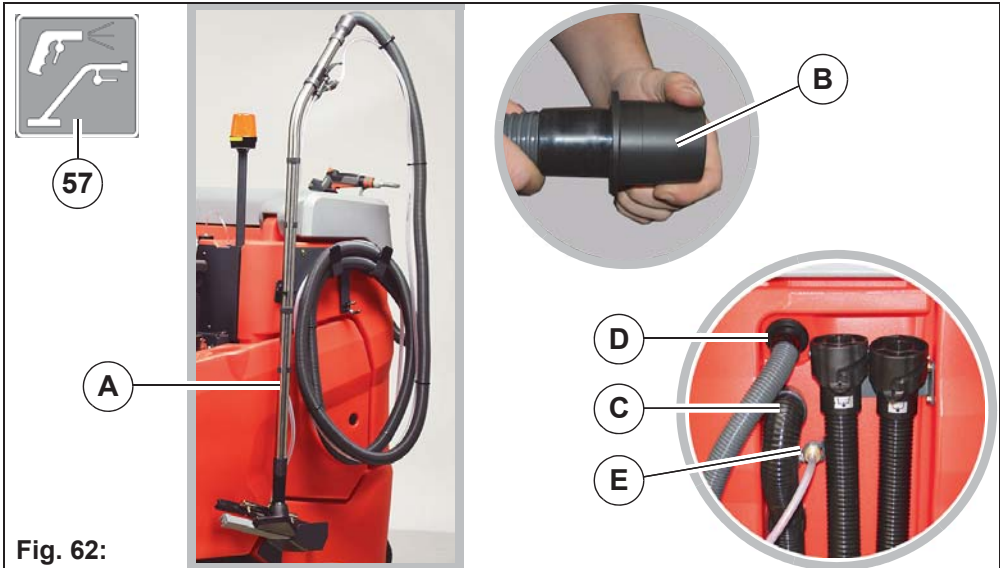

Fig. 62:
The spray suction tool **Fig. 62-A** is used for manually cleaning difficult-to-reach points.
Before starting up for the first time, the provided adapter must be securely attached to the end of the hose **Fig. 62-B**.
1. Reconnect the suction hose in the park position **Fig. 62-C**.
2. Insert the hose of the tool into the opening of the vacuum system **Fig. 62-D**.
3. Connect the hose to the water connection of the machine **Fig. 62-E**.